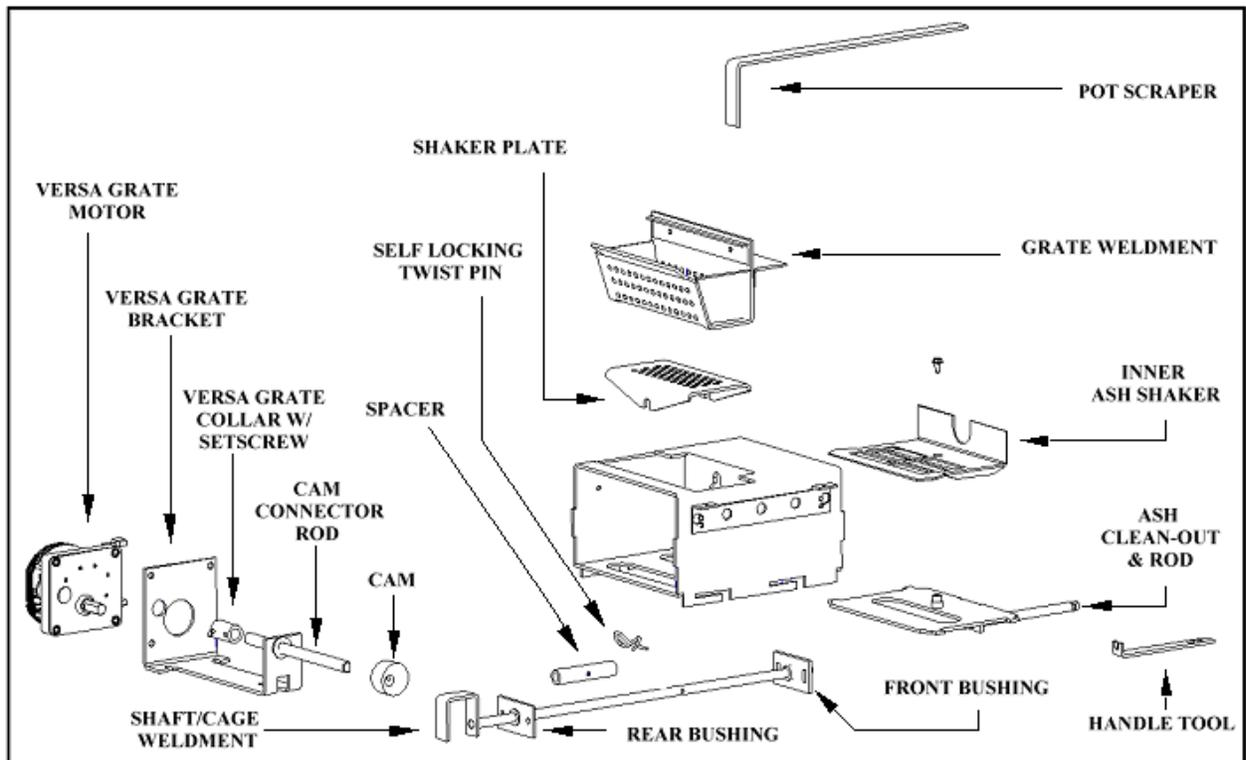

Figure 5
All models are equipped with the Versa Grate System (see Figure 5 below). The benefit of this feature is that the stove can operate for longer periods of time, with most fuels, without the grate requiring cleaning. If the flame becomes dark orange, is accompanied by black smoke or burns with a lazy motion - it's time to clean the grate.
**The Versa Grate System** – First, let's become familiar with the burn system in a St. Croix Pellet stove. Every St. Croix Pellet stove model will have the same system as shown in figure 5 below. There is a 2-piece burnpot. The top Part is called the **"Grate Weldment"**. This sits on top of the **"Shaker Plate"**. This in turn sits on top of the **"Shaft/Cage Weldment"** and is held in place with the **"Spacer"** & **"Self Locking Twist pin"**. The Shaft/Cage weldment is moved towards the front of the stove and then towards the back of the stove by the **"Cam"** that is connected to the **"Versa Grate Motor"**. This motion is constant, while the stove is in operation. The only parts that may need to be removed for cleaning purposes during the Daily or Periodic Maintenance are the **"Grate weldment"** and the **"Shaker Plate"**. This is to check the holes in the burnpot system to see if they are plugged.
1. Check Grate Weldment and Shaker Plate (See figure 5) to determine if holes are plugged. Clean as needed. With proper precautions the grate may be partially cleaned while the stove is hot. Follow these steps:
- d. Use the “scraper” provided to move the burning pellets to one side of the grate, leaving the ash in the bottom of the grate. (See Fig 5 & 6)
Use scraper shown in figure 5 & 6 to scrape ash into ash pan. Use a vacuum (cold stove only) to thoroughly clean these areas.
3. Clean burn grate holes at least weekly. Remove the burn grate and use a small metal object to clean out plugged holes. (See fig. 5 on page 9.)
5. The Versa Grate System needs to be lubricated once a year with some High Temp Anti Seize to prevent the parts from “squealing”. See figure 5 on page 9 also.